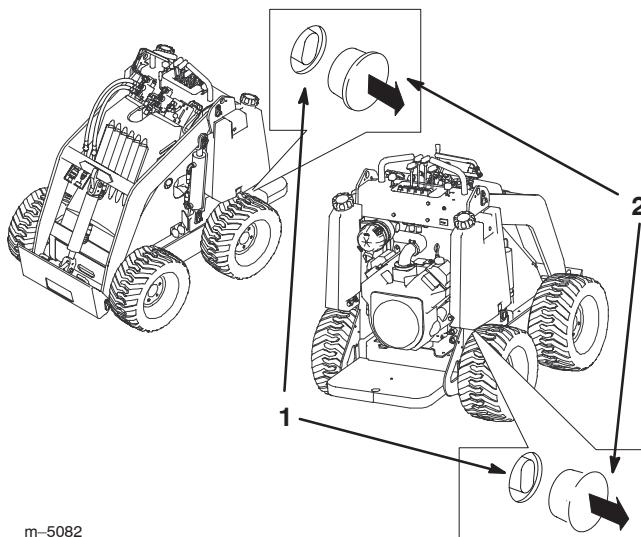

Figure 9
2. Remove the plug covering each tow valve (Fig. 9).
3. Loosen the jam nut on each tow valve (Fig. 9).